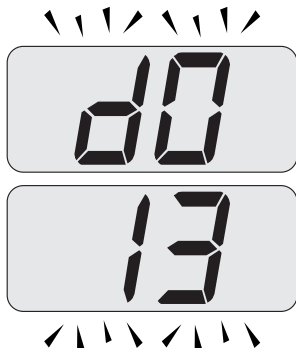

Fig. 2.2
In order to activate, press keys 11 and 13 together to access the "INFO" menu. The display displays the value "d0" that alternates with the pressure value "13" (1,3 bar). The number indicating the pressure, is displayed without decimal points while the letter indicates the unit of measure (bar) Fig. 2.2.
If the pressure reading on the pressure gauge is below that shown in Fig. 2.2, then the system will require topping up. A filling loop is normally provided by the Installer for
- Open the valves of the filling loop and watch the gauge until it reaches normal filling pressure as shown in Fig. 2.2.